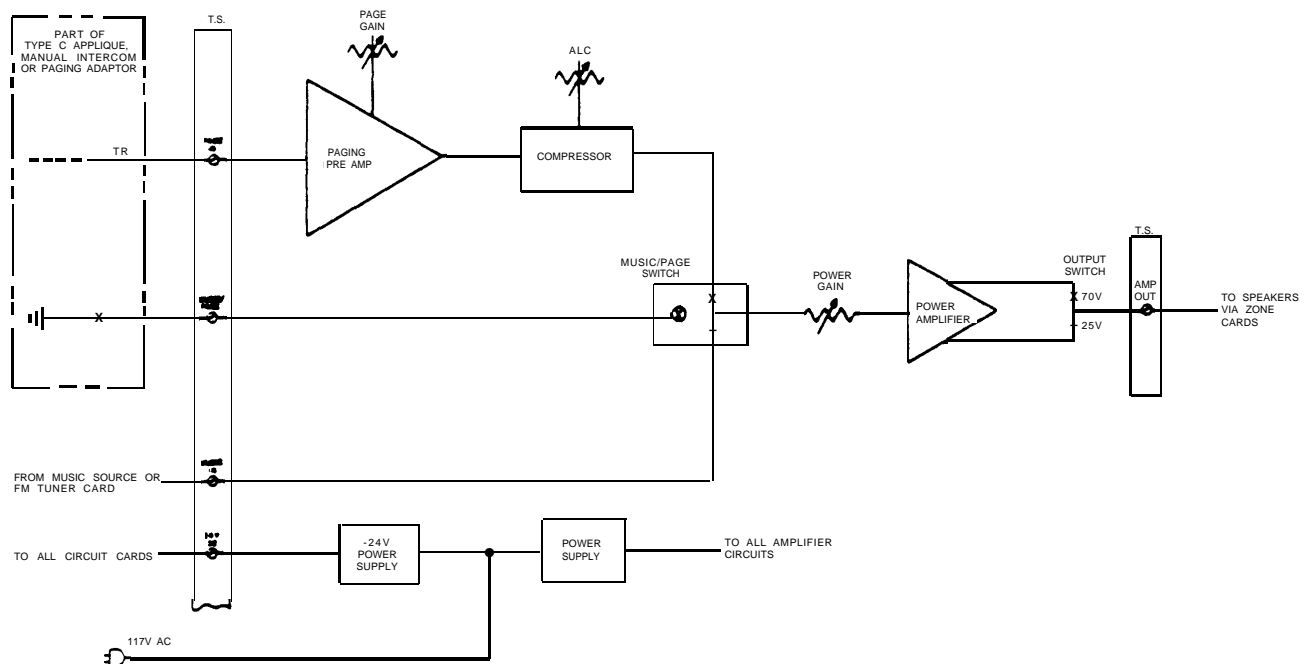

Fig. 16—AmpliCenter® Block Diagram
4.06 The caller broadcasts his page by speaking into his handset. His voice signals appear across the **PAGE IN** terminals of the AmpliCenter where they pass to the input of the paging preamplifier. See the AmpliCenter block diagram shown in Fig. 16. They are amplified in the preamplifier and pass through the compressor which controls the level of the signal so that persons with soft or loud voices are heard at the same level. Since the music/page switch has been enabled, the voice signals are applied to the power amplifier, amplified and appear at the **AMP OUT** terminals. The voice signal is connected to the desired speakers via relay contacts in the corresponding zone card.